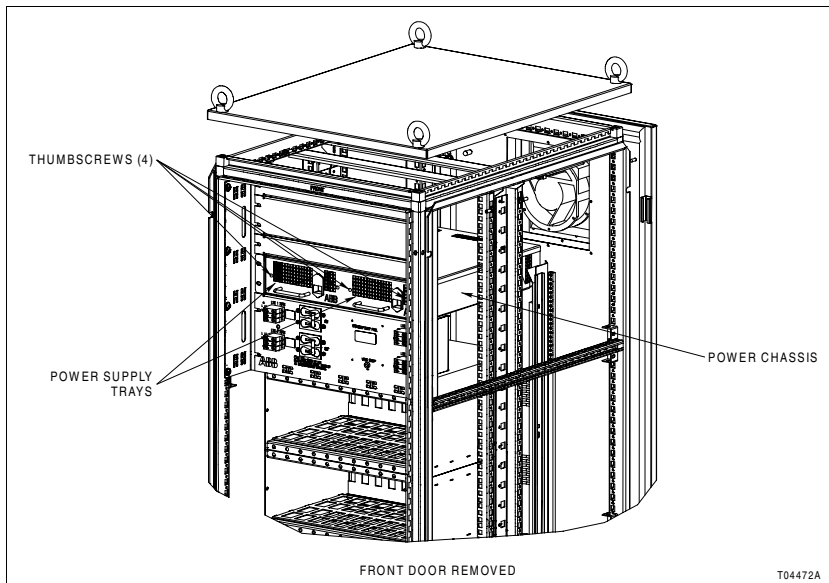

Figure PR10-1. Power Supply Tray Removal
- 4. Turn the two thumbscrews (Figure PR10-1) on each power supply tray counterclockwise to release the power supply trays from the power chassis.
- 4. Turn the two thumbscrews (Figure PR10-1) counterclockwise to release the power supply tray from the power chassis.